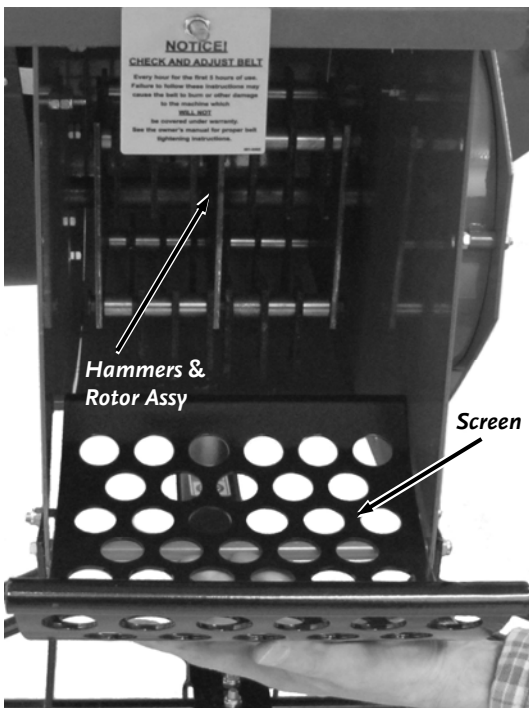

Figure 13
4. Now you can remove the Screen exposing the Shredder Hammers Assembly (**Figure 13**).